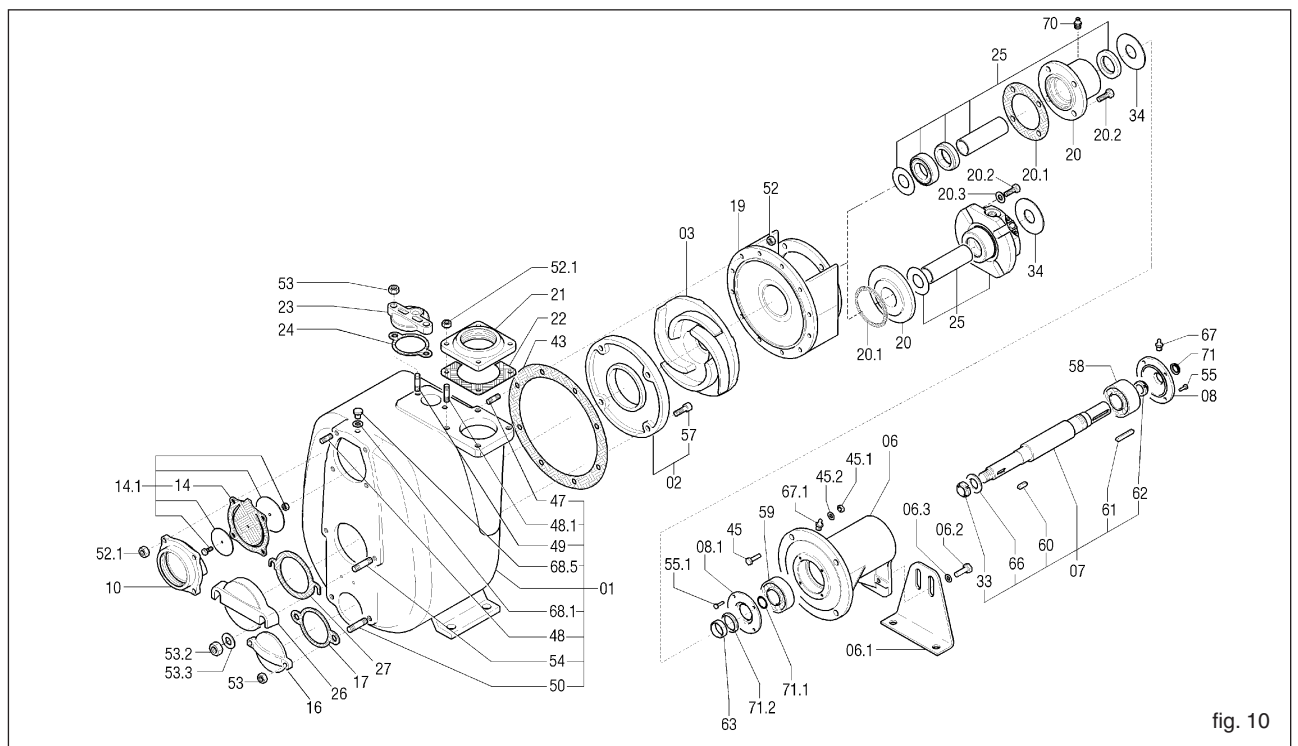

fig. 10
The suction line must have a diameter equal to that of the pump suction port (for diameters greater than that of the pump port, consult Varisco). If possible, avoid curves, elbows and constrictions which can limit the flow of liquid to the pump. Do not install a foot valve: the pump has a non return valve (14) incorporated in the suction port (fig. 10).
13.2 Replacing the impeller (03) (fig. 10)
- Unscrew the nuts (52) and remove the pump casing, taking care not to damage the casing gasket (43)
- Block the impeller and unscrew the self-locking impeller nut (33)
- If necessary, replace the casing gasket (43)
13.3 Replacing the wear plate (fig. 10)
13.4 Replacing the check valve (fig. 10)
- Slip off the suction flange (10)
- Slip off the check valve (14)
- Clean the valve seat of the suction flange (10) and reassemble it
13.5 Replacing the mechanical seal T, TW, T4W (figs. 10, 11, 12)
- Tighten the head screws (45) and nuts (45.1)
- Smear the gasket of the rotating seal seat (40) and the shaft sleeve (31) with oil and slip the seal on to one end of the shaft sleeve
- Mount the seal support ring (25.1). Push this forward until it is possible to reassemble the impeller key (60)
- Reassemble the impeller (03), the impeller washer (66) and tighten the impeller nut (33)
13.6 Replacing type TCW, TC8W cartridge seals (fig. 10, 13, 14, 15, 16)
- Unscrew the nuts (52) (fig. 10) and remove the pump casing, taking care not to damage the casing gasket (43)
- Block the impeller (03) and remove the self-locking impeller nut (33)
- Remove the impeller (03)
To achieve this, dimensions A and B in figs. 17, 18, 20, 21 must be as nearly as possible equal. To this end, use the shims (25.2) (fig. 11) supplied with spare mechanical seals. These shims are used to move the impeller further forward if it is too far from the front wear plate or too near the rear wear plate. The shims should be mounted between the seal support ring (25.1) (fig. 11) and the impeller. Further adjustments can be carried out using casing gaskets (and rear wear plate gaskets on models which fit these). The presence of the casing gasket (43) (fig. 10) 0.5 mm thick then creates the correct distance (fig. 19).
13.8 Maintenance of the bearings (fig. 10)